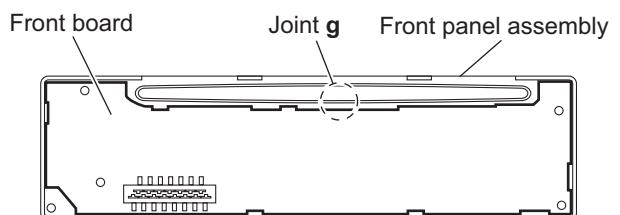

Fig.10
- Release the joint **g** and take out the front board from the front panel assembly. (See Fig.10)